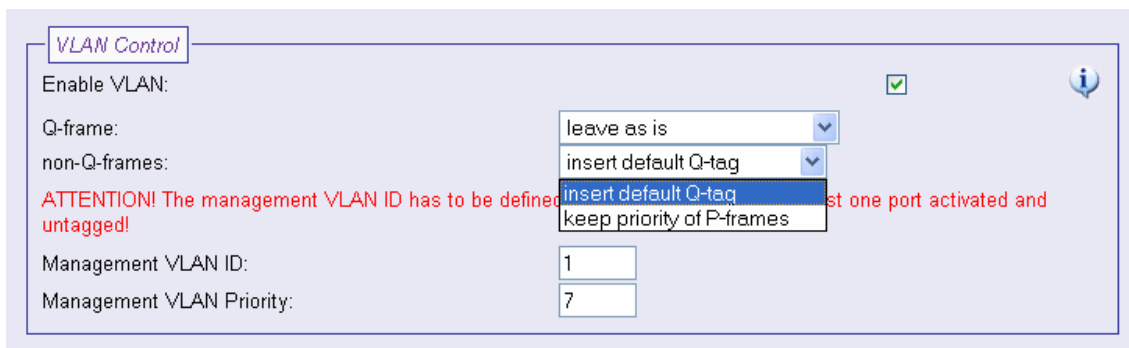

Figure 10. 1800 SW VLAN Control , non-Q-frame menu options
- incoming non-Q frames can be handled as follows (see figure 10):